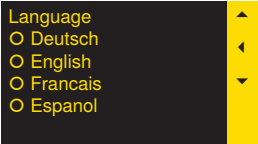

Fig. 1: Set menu language
**Note:** If more than one plug is used, only one Supply Voltage can be used. The desired menu language must be selected after initial start-up, and after each reset (see fig. 1).